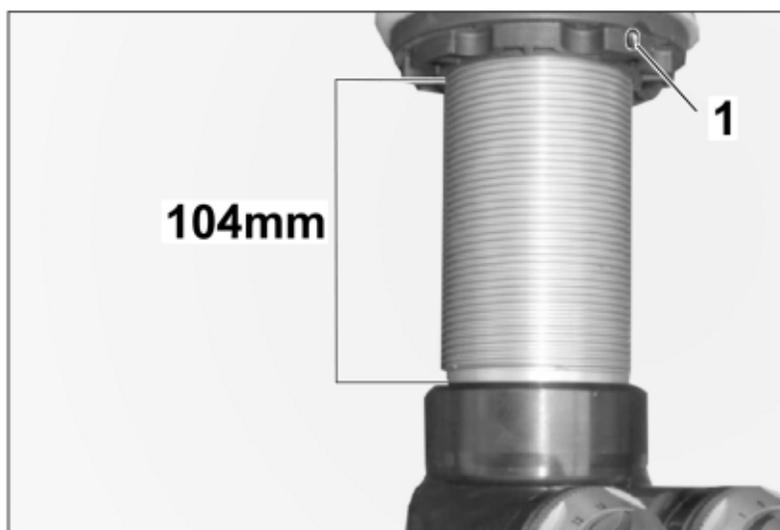

Figure 16
14. – Set the chassis height before installing the rear axle dampers in the vehicle. For vehicles with and without a lift system, the pre-setting from the lower housing collar to the lower edge of the spring plate is 104 mm (4.10 in) ⇒ Figure 16. The locking screw on the spring plate may have to be loosened for adjustment.